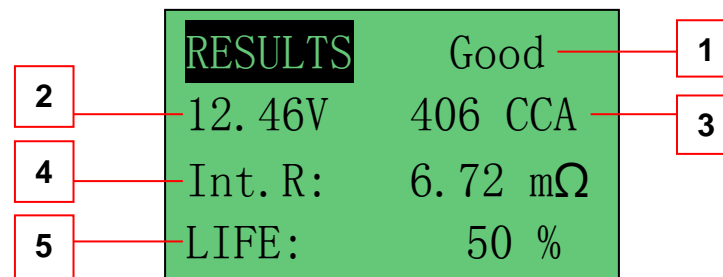

Figure 23
12. For less than 5 seconds, the results of the testing will be displayed on the LCD screen. (Fig. 23)